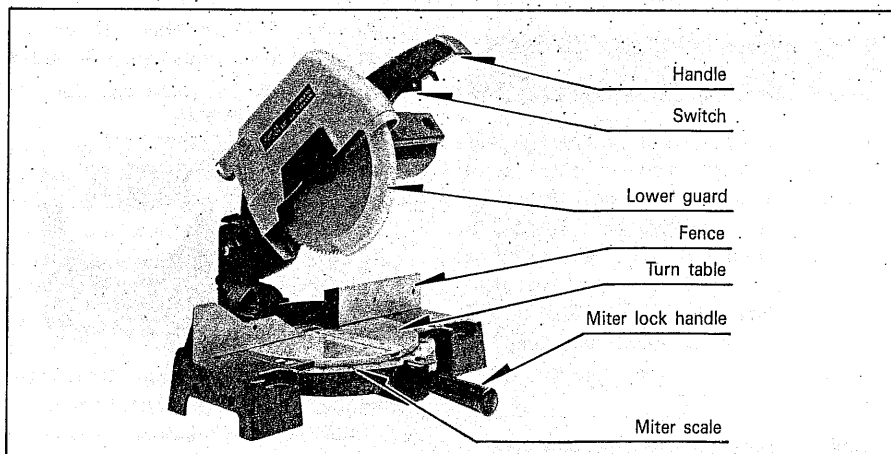

Fig. 2
6. Examine all parts (Fig. 2, 3) to make sure that no breakage has occurred during shipping. Any damaged part should be replaced before attempting to use the saw.